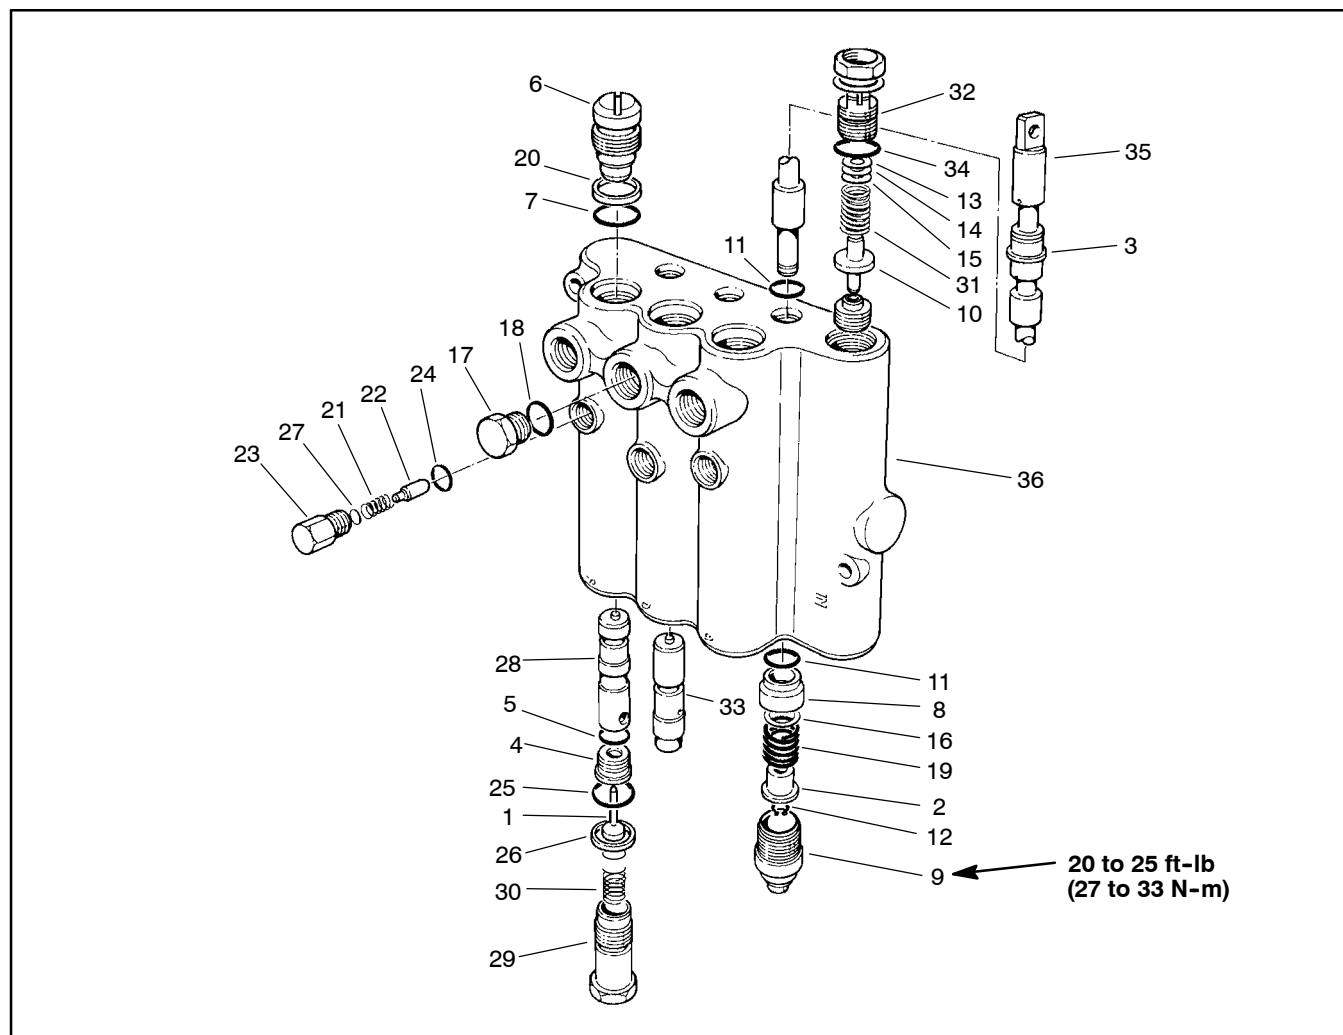

Figure 74
**Disassembly (Fig. 74)**
2. Remove spool caps (9). Do not remove retaining rings (12) from spools unless spool spring (19) is broken.
3. Remove spools (35) from valve body (36).
4. Remove bushings (8) and O-rings (11) from spools.
5. Remove plugs (6).
6. Remove plugs (29), lockout springs (30), poppets (1), seats (4) and plungers (28 and 33).
7. Remove plug (17).
8. Remove detent plug (23), disc (27), detent spring (21) and detent plunger (22).
3. Inspect spool springs (19), relief valve spring (31), lockout springs (30), and detent spring (21) for breakage.
4. If spools (35) have excessive wear, the control valve becomes non-serviceable as the spools and spool bores are matched. Damaged spools cannot be replaced individually.
5. Inspect relief valve poppet (10) for breakage or wear.
**Assembly (Fig. 74)**
2. Install new O-rings (11) in proper grooves in spool bores.
3. Install relief valve components (13, 14, 15, 31, and 10) with new O-ring (34) on plug assembly (32).
4. Install plugs (6) with new back-up washers (20) and O-rings (7).
6. Install new O-rings (5) on seats (4). Install new back-up washers (26) and O-rings (25) on plugs (29).
7. Install seats (4), new poppets (1), and plugs (29).
8. Install plug (17) with new O-ring (18).